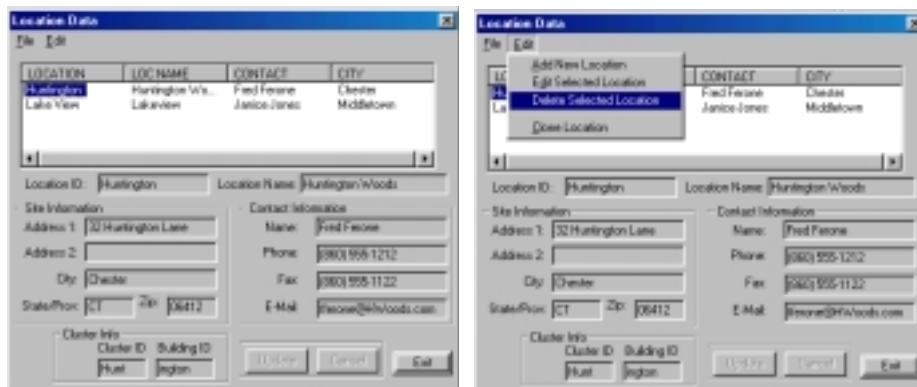

Figure 5.5 Deleting a Location
2. Click the location you wish to delete from the Locations List Window (Figure 5.5).
3. Select Delete Selected Location from the Edit drop-down menu (Figure 5.5).